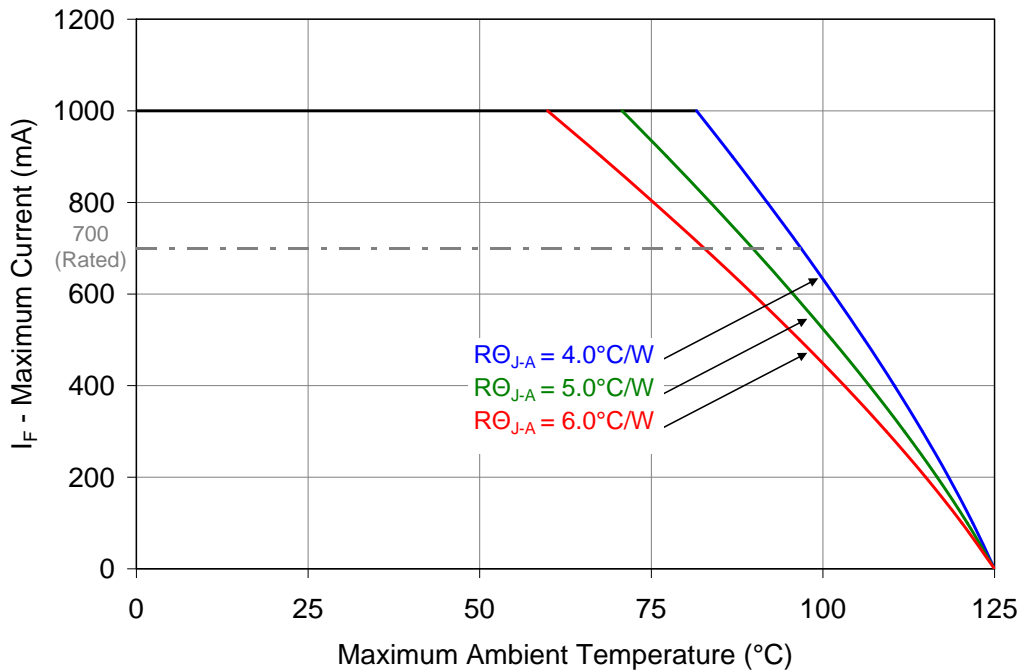

Figure 10: Maximum forward current vs. ambient temperature based on Tj(MAX) = 125°C.
- Maximum DC forward current (per die) is determined by the overall thermal resistance and ambient temperature. Follow the curves in Figure 10 for current derating.
Notes for Figure 10: